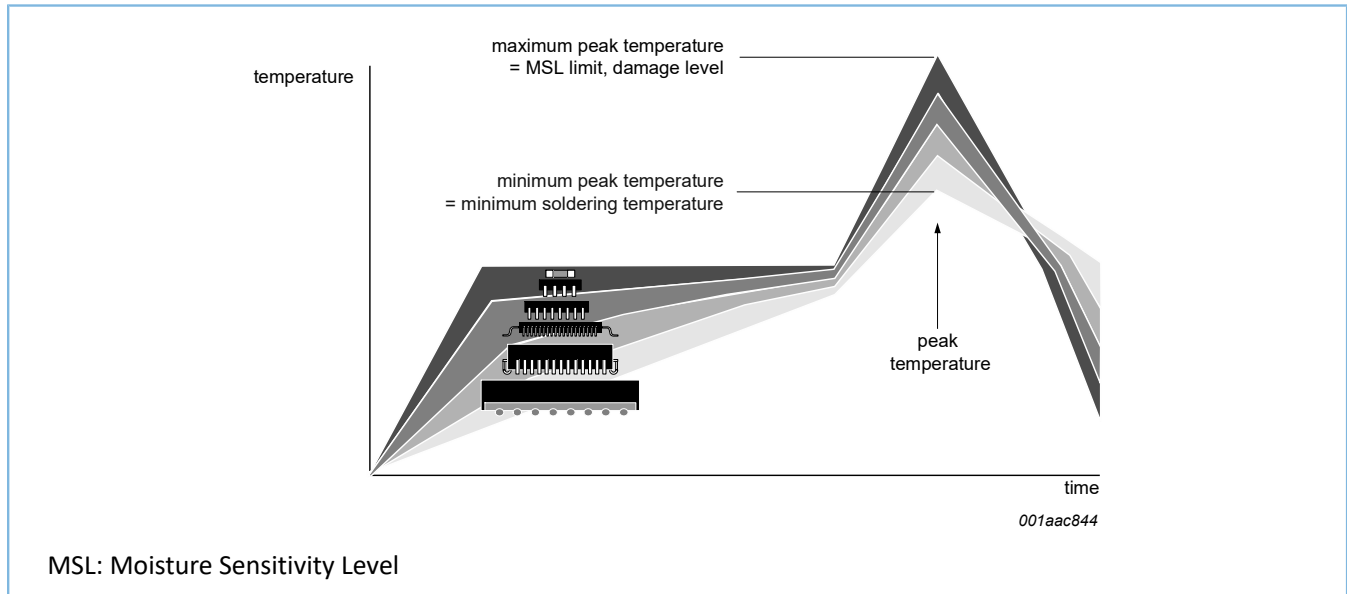

Figure 16-1: Temperature profiles for large and small components
- Lead-free versus SnPb soldering; note that a lead-free reflow process usually leads to higher minimum peak temperatures (see Figure 16-1) than a SnPb process, thus reducing the process window
Studies have shown that small packages reach higher temperatures during reflow soldering, see Figure 16-1.